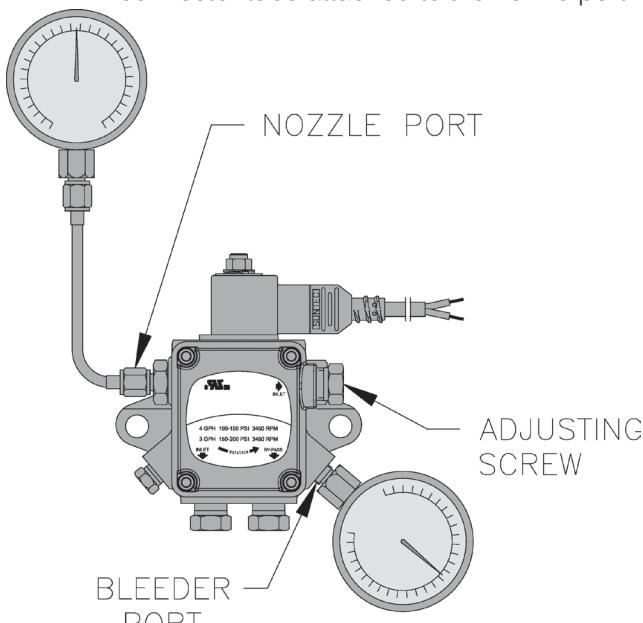

Figure 32: Adjusting Fuel Pump Pressure
- a. When checking a fuel unit's operating pressure, a reliable pressure gauge may be installed in either the bleeder port or the nozzle port. For Beckett burner refer to Figure 32.